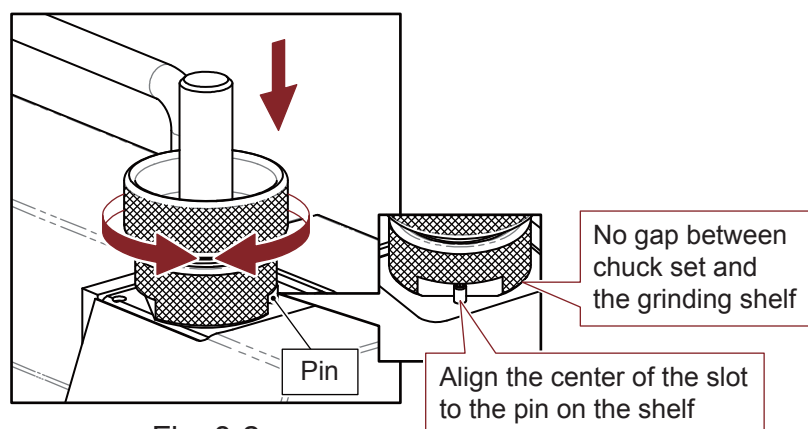

Fig. 8-2
2. Web Thinning (Fig. 8-2)
① Insert the chuck set into the web thinning grinding shelf, and grind the drill by turning clockwise and counterclockwise until the grinding noise stops.
② Take the chuck set out, turn it to the other side and grind the drill in the same way.